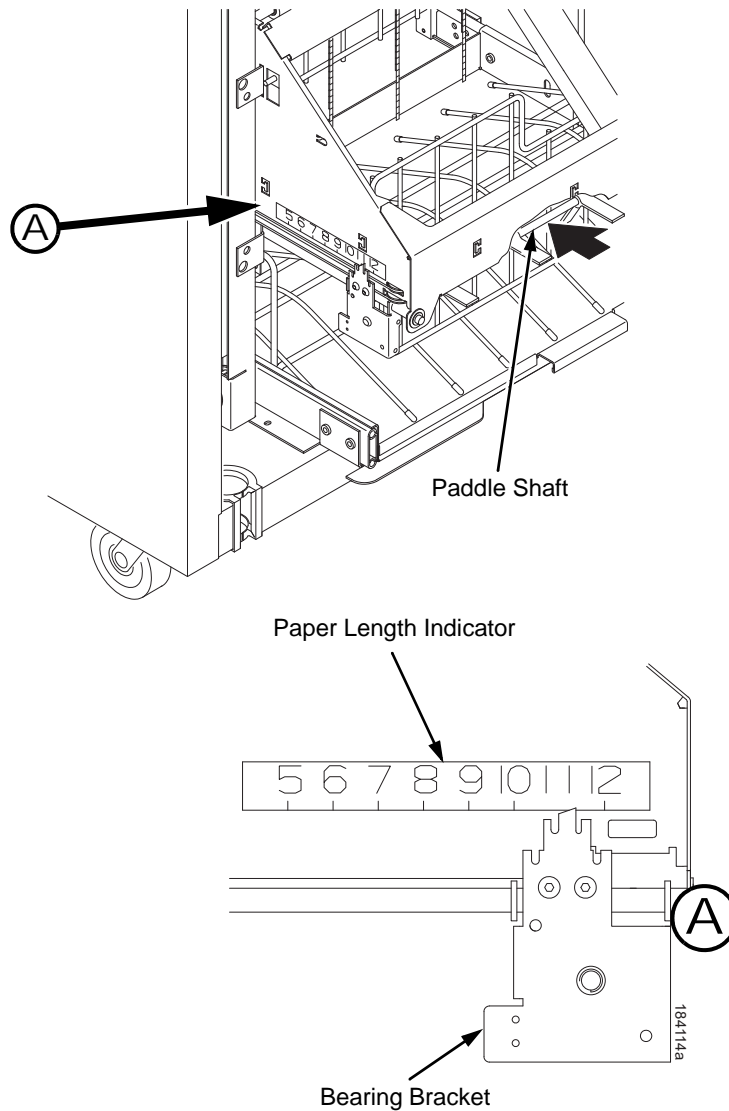

Figure 4. The Paper Length Indicator
5. Push or pull the paddle shaft toward the front or the rear of the printer to set the desired paper length. Align the indicator notch on the bearing bracket with the paper length indicator. The power stacker can handle paper or forms from 5 to 12 inches (12.7 to 30.5 cm) long. (Figure 4.)